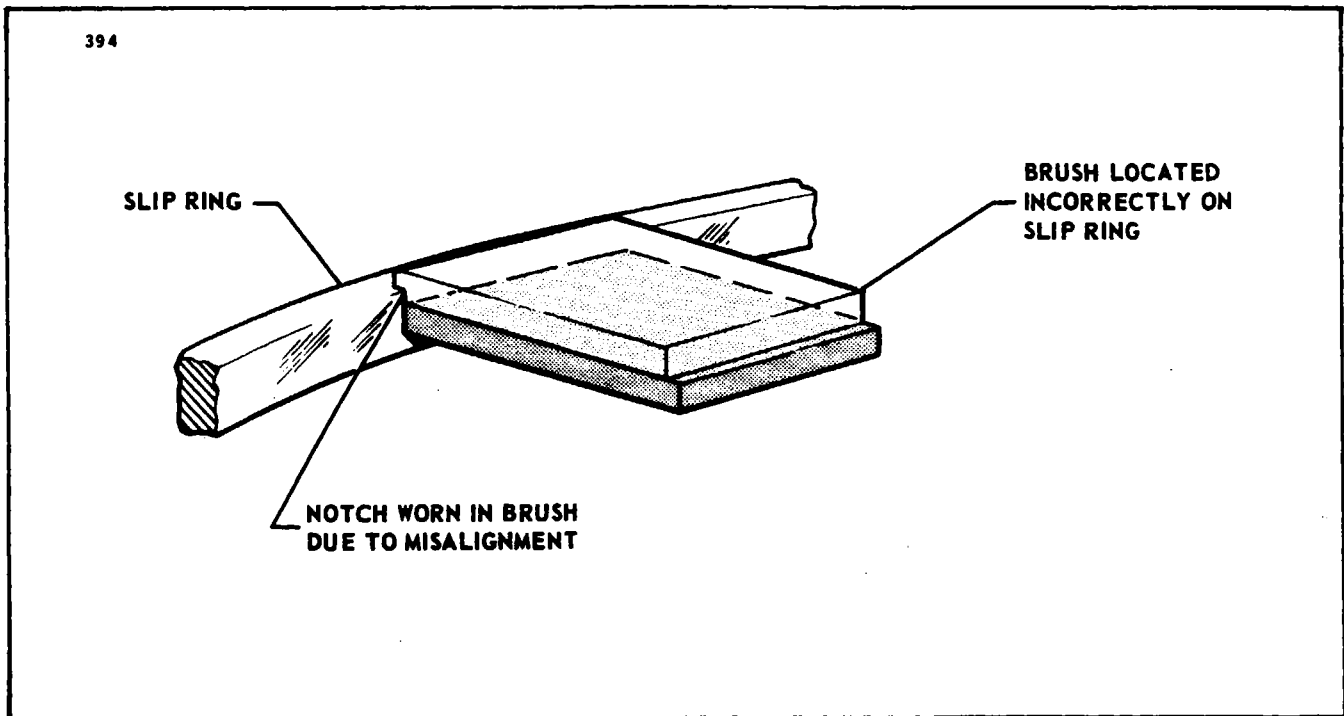

Figure 14-13. Centering of Brushes on Slip Rings
1. Test that each brush rides fully on its slip ring over 360°. Figure 14-13 shows wear pattern if this condition is not corrected. If alignment is off, shim where brush block bracket attaches to engine back bone or pivot at support arm which is attached to generator idler pulley bracket.